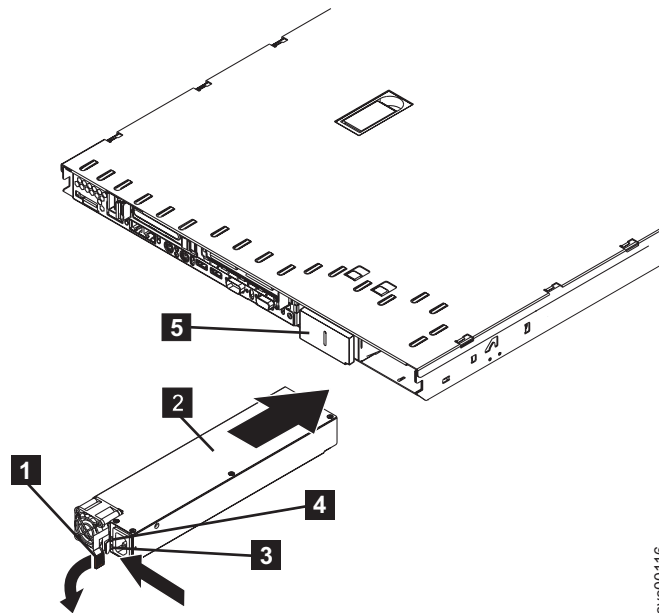

Figure 60. SAN Volume Controller 2145-8F2 power supply handle
- a. Rotate the handle **1** down on the rear of the power supply to the open position, and then slide the power supply forward into the power-supply bay. See Figure 60.